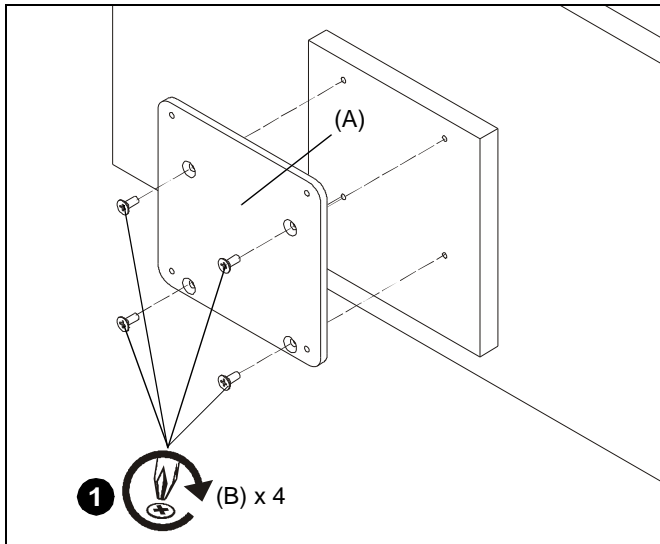

Figure 1
1. Use four M4 x10mm Phillips flat head screws (B) to secure interface bracket (A) to back of display. (See Figure 1)